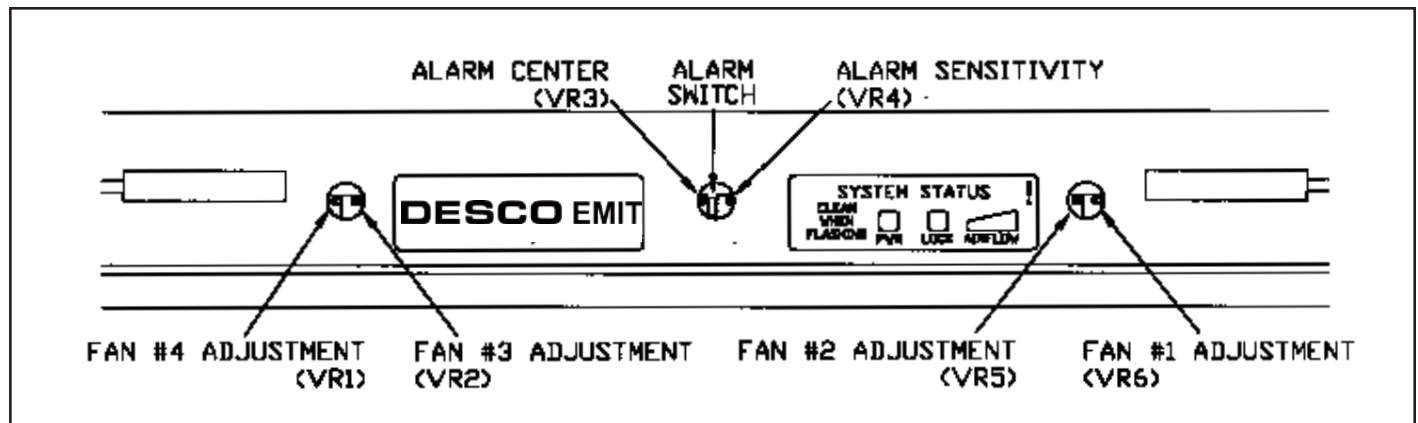

Figure 6. Calibrating C/E Ionizer
See figure 6.
6. See figure 6. For VR (variable resistor) locations. Fans from right to left side are labeled 1 to 4, VR from right to left side are labeled 6, 5, 2 and 1. So if you have the CPA under fan 1, you are going to adjust VR6. Adjust VR6 so balance on CPA reads 0Volts @ +/-15Volts. Move the CPA from fan 1 to next fan, fan 2 and adjust VR5 to 0Volts @ +/-15Volts, repeat these set for all fans. All fans should be at 0Volts @ +/- 15Volts.